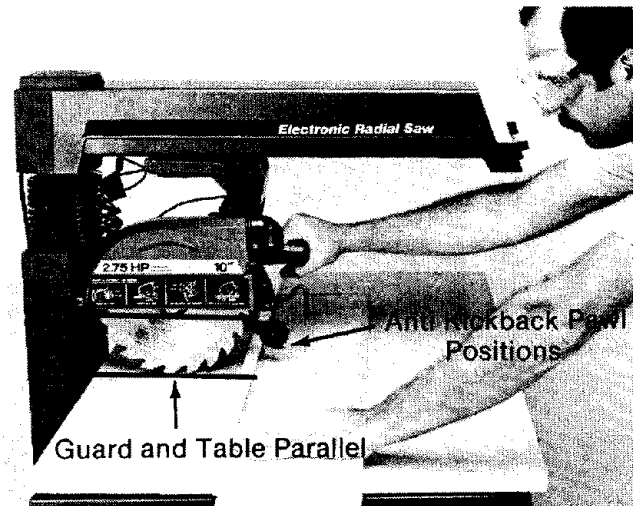

Fig. 145 Crosscut Blade Guard and Body Position
**WARNING:** To reduce the risk of contact with the upper half of the blade and keep the workpiece from jamming in the guard, set the blade guard in the horizontal position. Fig. 145.
⚠ WARNING: The blade guard must be horizontal to provide protection from contact with the upper half of the blade and avoid the workpiece being jammed in the blade. Set the blade guard in the horizontal position. Fig. 145.